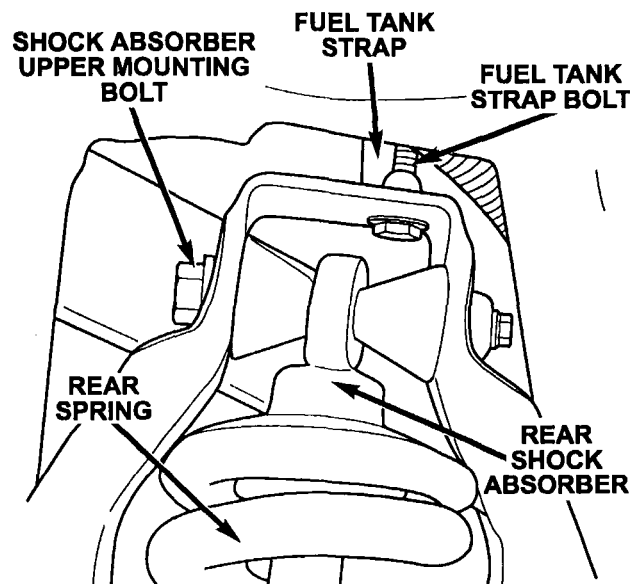

Figure 24 – Left Side Shown
25. Remove the mounting bolt from each end of the fuel tank strap by accessing the bolt through the wheel well (Figure 24).